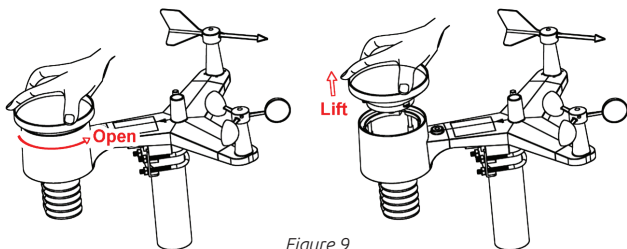

Figure 9
1. Clean the rain gauge once every 3 months. Rotate the funnel counter-clockwise and lift to expose the rain gauge mechanism (Figure 9), and clean with a damp cloth. Remove any dirt, debris and insects. If bug infestation is an issue, spray the array lightly with insecticide.